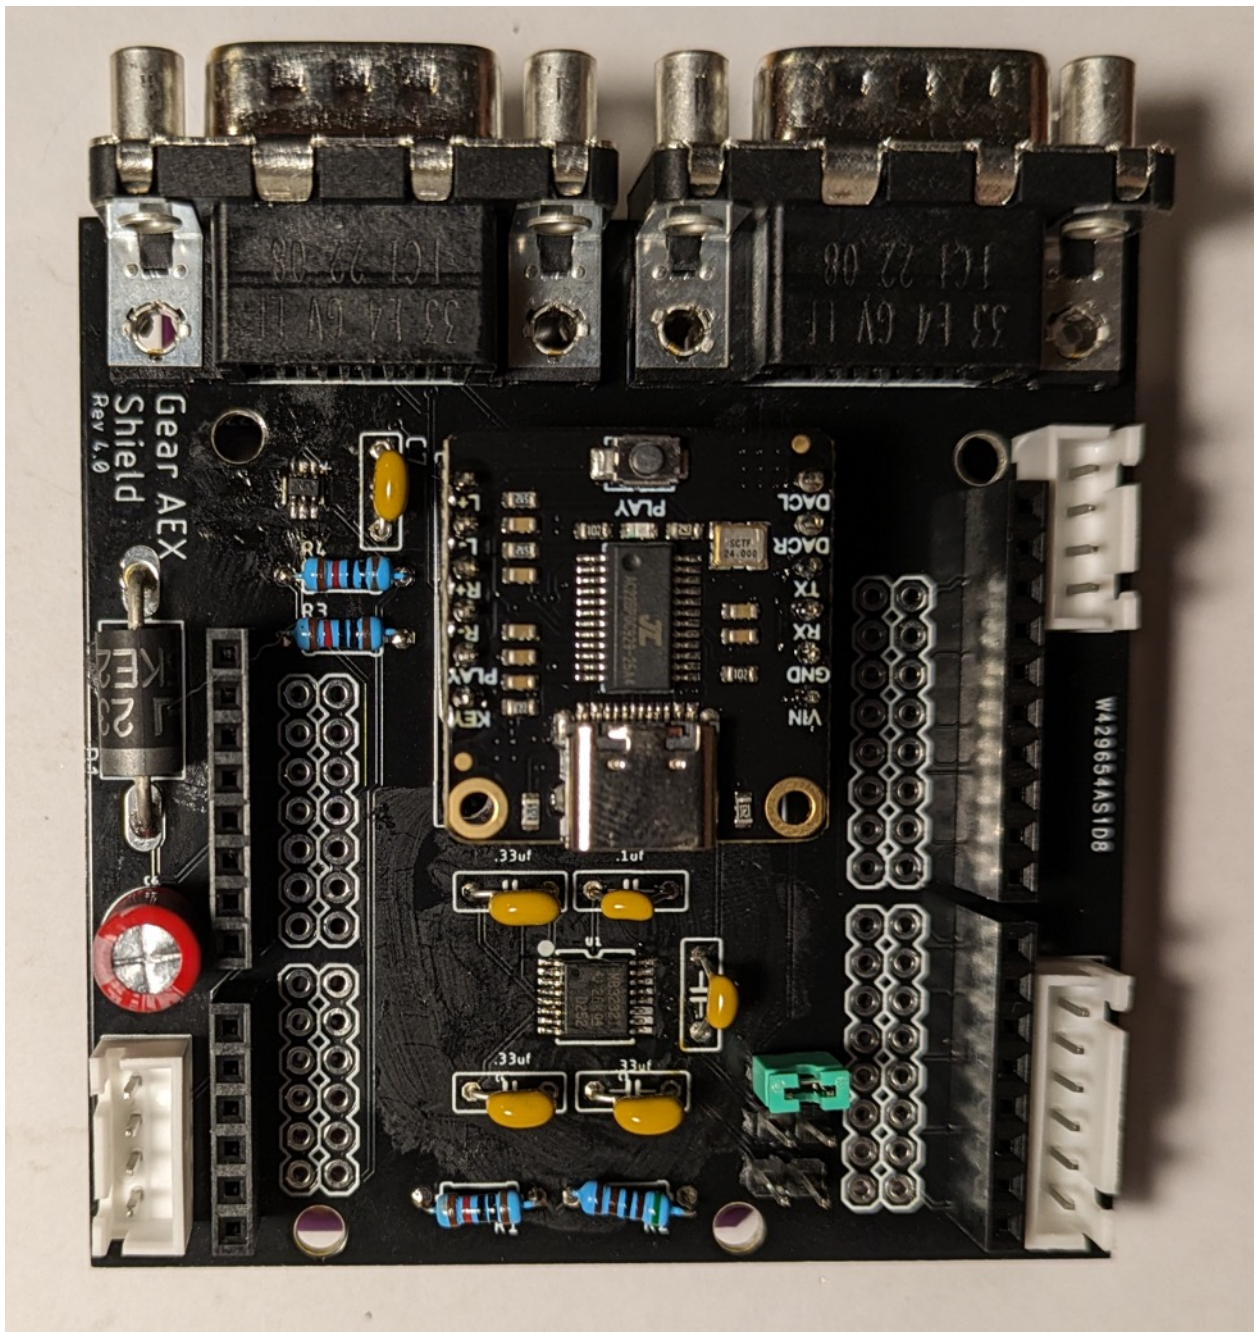

Figure 14 - Arduino Shield Assembly Completed
13. This completes the assembly of the shield, and the completed board should look something like this(Figure 14):